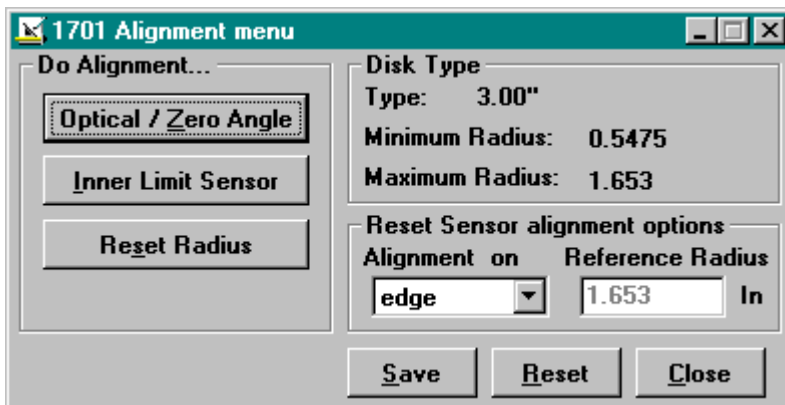

Figure 1: 1701 Alignment Menu Dialog Box
2. The new *Disk Type* frame is added to the *1701 Alignment Menu* dialog box. This read-only information frame displays the selected disk type, as well as the minimum and maximum radiuses (see Figure 1).